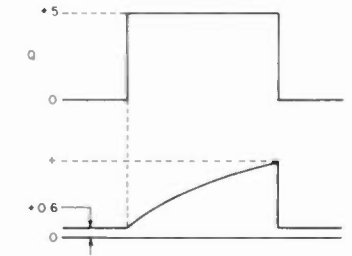

Fig. 2(b). The potential across C1 never drops below 0.6 volts because of the presence of D1.
An example of a monostable multivibrator built from a CMOS type-D flip-flop is shown in Fig. 2. Recall the rules for the type-D FF: (1) Since D is HIGH, a HIGH will be transferred to the Q output when the CLK line goes HIGH, and (2) when the clear line goes HIGH, the Q output is forced LOW. The operation of the one-shot circuit in Fig. 2, then, is as follows:
The circuit in Fig. 2(a) uses a diode (D1) across the timing resistor (R1) to discharge C1 during the period when Q is LOW. This diode is not strictly necessary but serves to speed up the circuit considerably. Without D1, the charge on capacitor C1 would bleed off through R1. But this would require another R1C1 time constant (or so) before the voltage across C1 would discharge enough to permit retriggering of the one-shot. The purpose of D1 is to discharge C1 rapidly so that retriggering can occur almost immediately after Q drops LOW — see the waveform in Fig. 2(b).